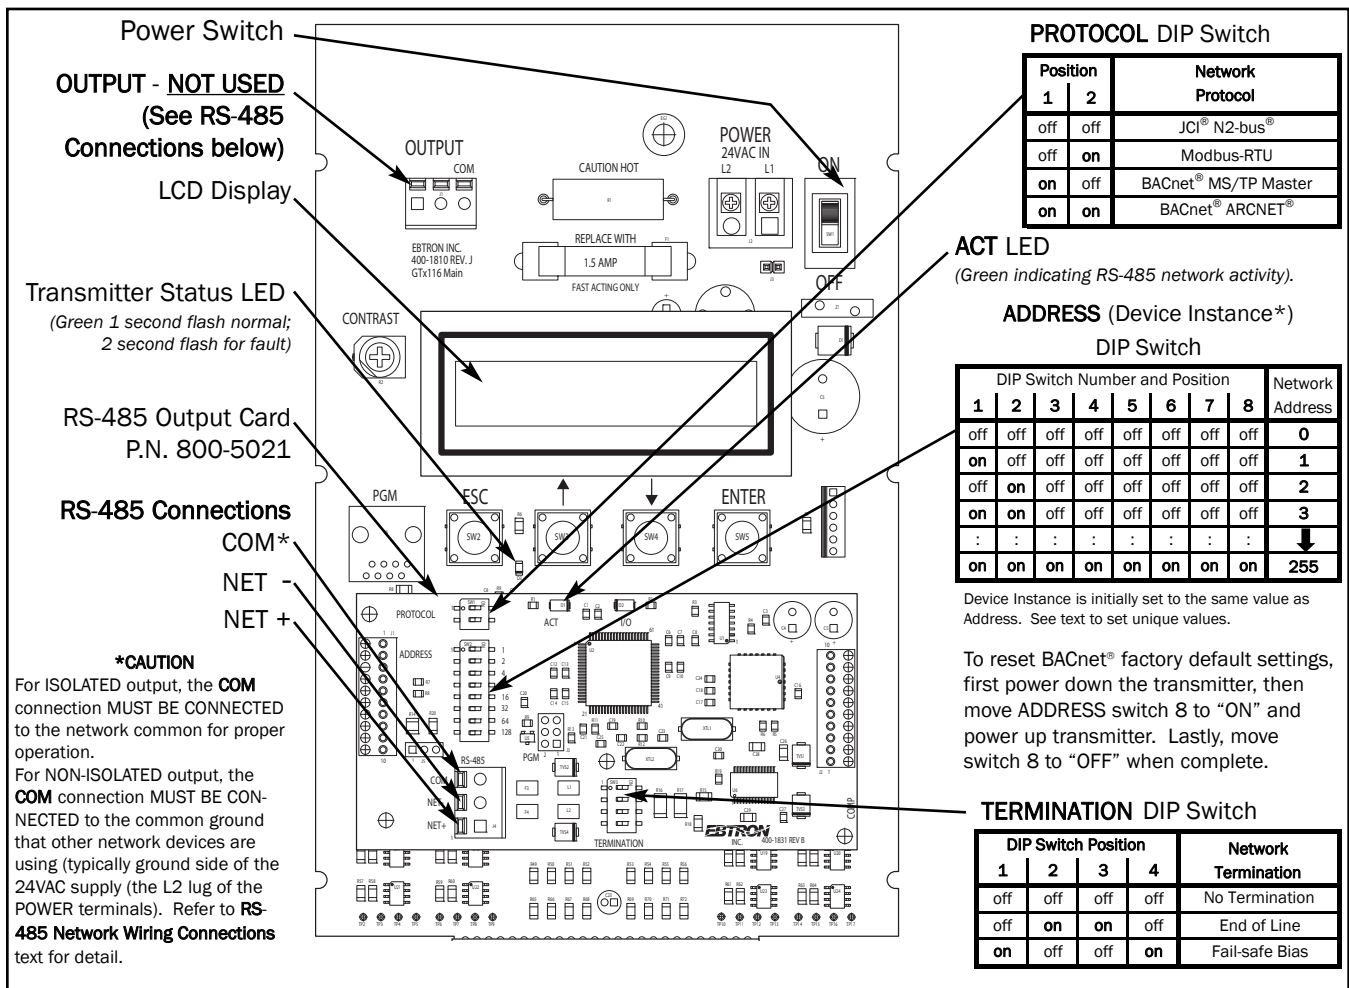

Figure 5. GTN116 Transmitter Interior Detail
The GTN116 features field selectable firmware menu options for address and protocol selection, and a termination DIP switch (as shown in Figure 5) for line termination selection to integrate with various network topologies. An advanced differential bus/line transceiver designed to meet RS-485 standards for multipoint data transmission provides protection for over-current and over-voltage bus contention/wiring faults, as well as automatic thermal shutdown protection.
The GTN116 RS-485 network circuitry is isolated from the 24VAC power and “floats” with respect to ground by default. This allows for the GTN116 to be interfaced with both isolated and non-isolated networks. To wire the output signal, slide the cover plate up and off of the enclosure. Ensure that the power switch is in the “OFF” position. Determine whether the RS485 network requires an isolated or non-isolated interface to the GTN116, and connect cables as outlined in the appropriate paragraph that follows. Pay particular attention to the network common connection and termination DIP switch requirements for each type of connection. Connections are made at the three position terminal block labeled “RS-485” on the RS-485 output card as shown in Figure 5. **Do NOT use analog OUTPUT connections at the upper left hand side of the main circuit board for RS-485!** For additional detail, refer to the HTN104 Wiring Diagram of Appendix A.
For NON-ISOLATED output, the **COM** connection MUST BE CONNECTED to the common ground used by the other network devices (typically the ground side of the 24VAC supply; the L2 terminal at the POWER connector block as shown in Figure 5).
The transmitter must be configured for proper protocol address and termination prior to power up. The transmitter is shipped from the factory with the protocol set to BACnet® MS/TP Master, **address 1** and **no termination**. (Termination DIP switch is located on the circuit card - see Figure 5.) Refer to separate Technical Manual TM\_GTx116 for COMM Setup Menu options.
The GTN116 transmitter is shipped with factory default protocol set to BACnet® MS/TP (Master). Network protocol can be changed by powering the transmitter OFF, and then setting the PROTOCOL Dip switch to the desired protocol as shown in Figure 5. When changing protocol, ensure that the network wiring, address selection, baud rate and network termination options have been properly set as required for the new protocol. When the transmitter is powered ON, the new network protocol will become effective.
- b. Record MS/TP ADDRESS DIP switch settings (shown in Figure 5) so that this address can be restored later.